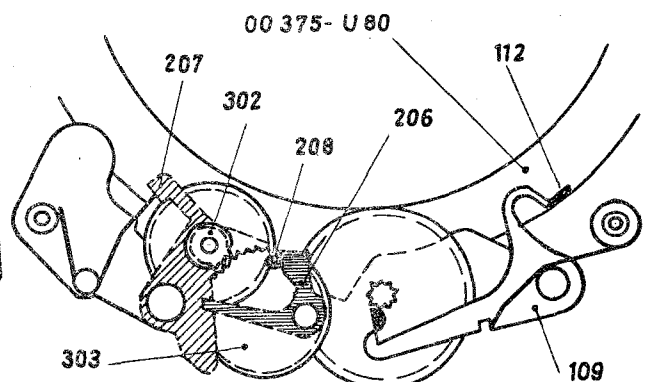

Fig. 9
b. The lever 206 is arranged to be operated by a control pin 208 (Fig. 9) carried by the drive ring in such a manner that, with the shutter inoperative, the change-over bridge 207 is also inoperative. During its short travel from its rest position up to the point of release, the pin 208 will unlock the lever 206, so that, with the change-over ring set at "V", the disengagable gear wheel 302 carried by the change-over bridge will be brought into mesh with the gear wheel 303 which is operatively connected with the remainder of the mechanism. Fig. 9 illustrates the proper position of the parts involved, i.e. the complete engagement between the gears 302 and 303 immediately before the movement is released by the locking lever 109.